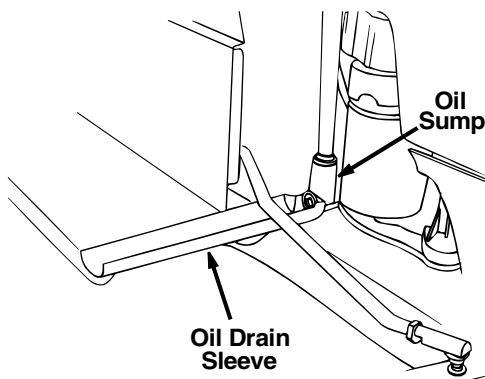

Figure 23
- Your lawn tractor may have a plastic oil drain sleeve packed with the loose parts for your convenience in draining oil from the crankcase. To drain the oil, snap small end of oil drain sleeve onto oil sump. See Figure 23 . Remove drain plug and drain oil into a suitable container.